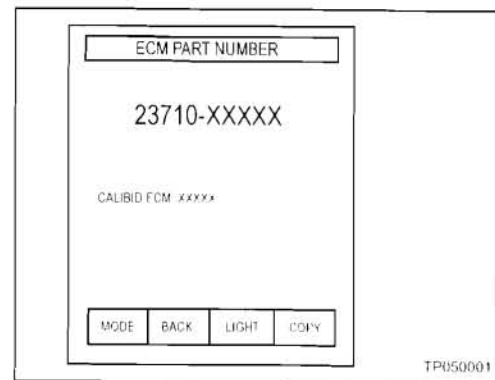

Figure A1
- Figure A1 is an example of the ECM Part Number printout.